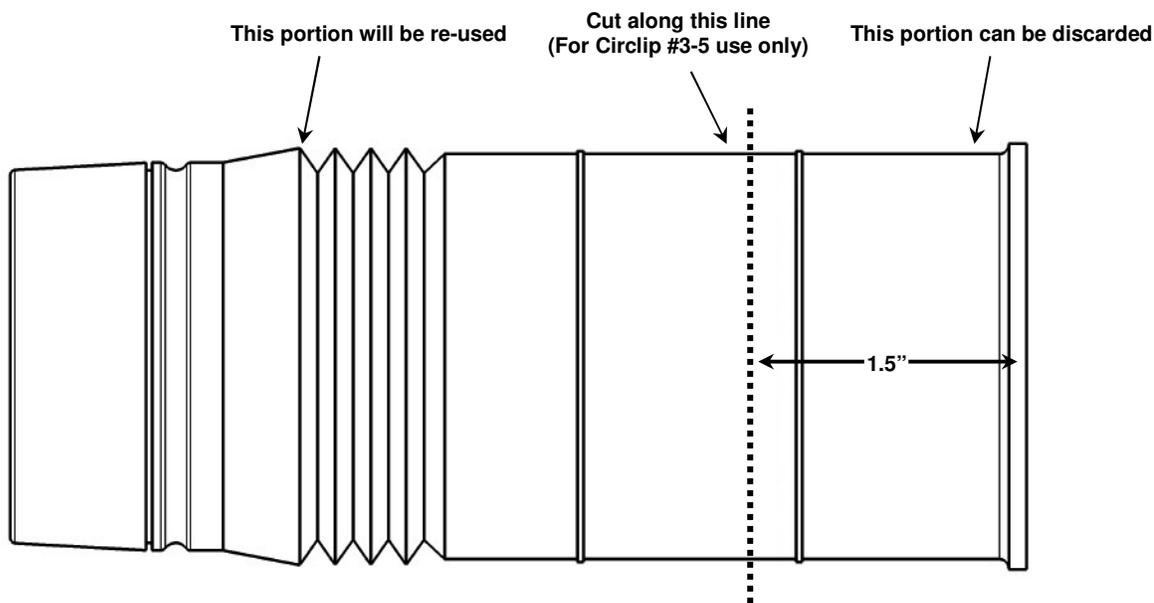

Figure 2: OE dust boot
- Using scissors, carefully cut the OE dust boot along the dotted line shown below in Figure 2: